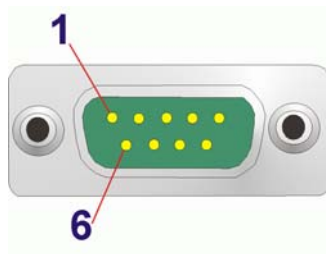

Figure 3-29: RS-232 Serial Port Pinout Location
- CN Pinouts:** See **Table 3-7** and **Figure 3-29**